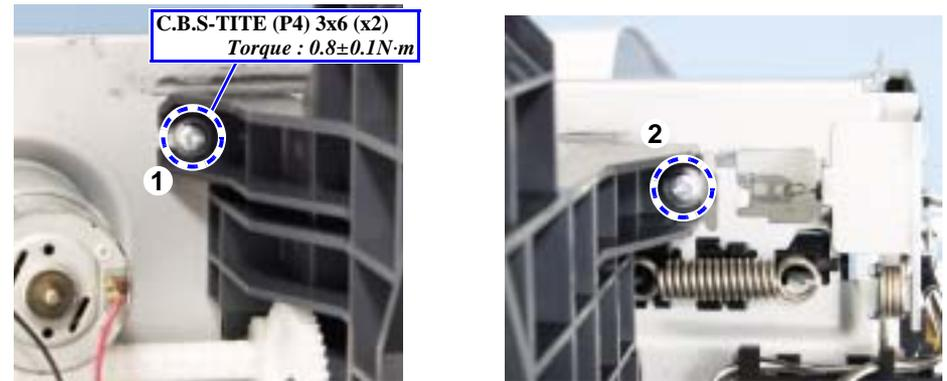

Figure 4-59. Removing the screw (ASF Assy)
6. Remove the right and left screws (x2) securing the ASF Assy. (Fig. 4-59)
- Tighten the screws in the specified order. (Fig. 4-59)